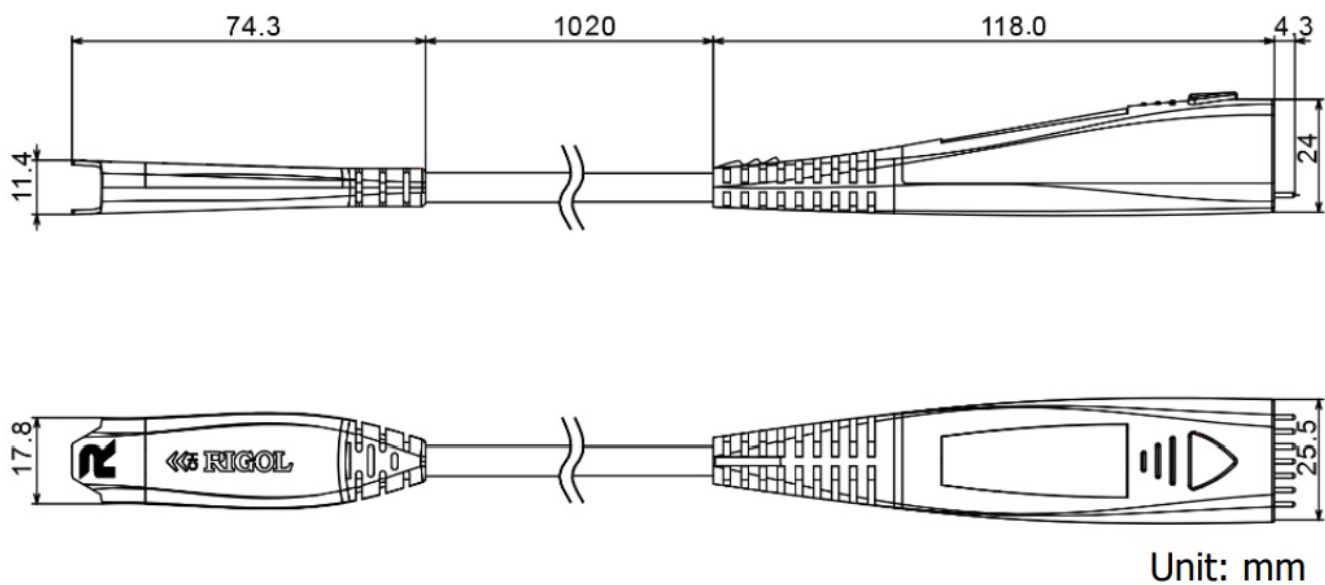

Figure 1 Probe Dimensions
**Figure1** shows the dimensions of the probe body of the PVA8000 series active probe.